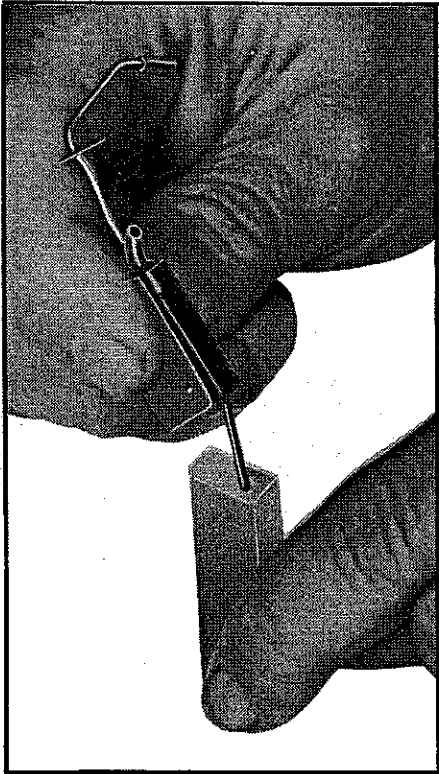

FIGURE 6 Ink Cartridge Installation
Ink Cartridge (See Fig. 6)
4. Push the pen tube into the indentation, as shown in Figure 6, until the pen tube and vent tube are fully inserted into the cartridge. Avoid squeezing the cartridge while accomplishing this step.